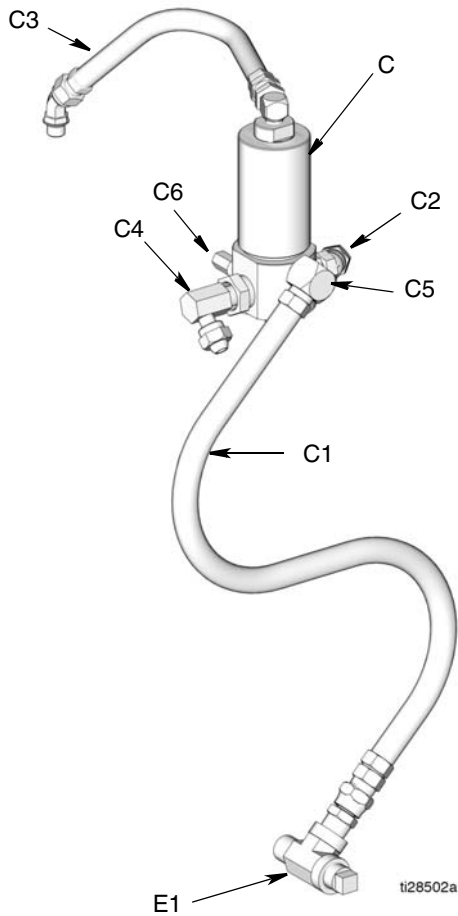
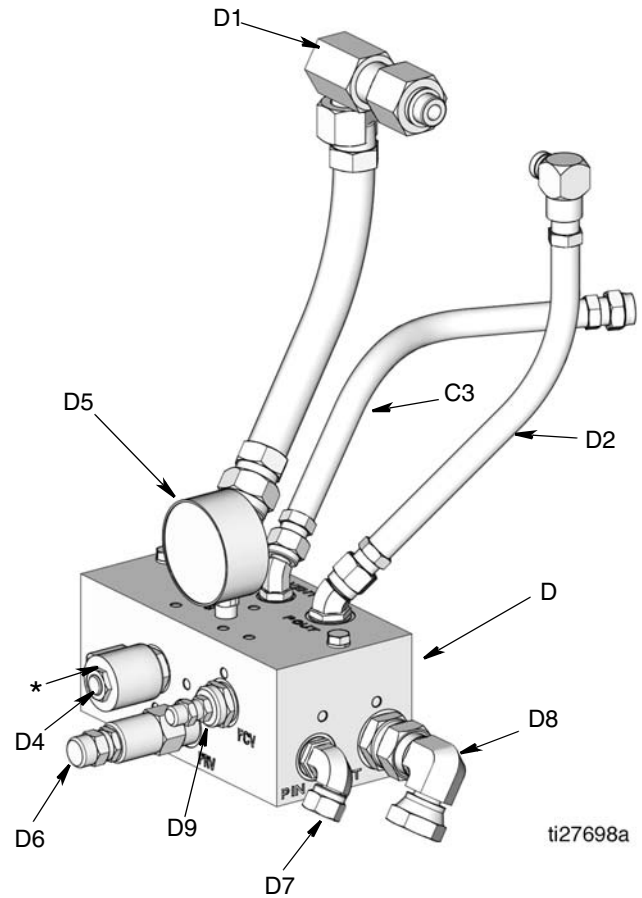

FIG. 2
FIG. 3
- Open Pressure Reducing Valve (D6) to reduce trapped hydraulic pressure (FIG. 3, page 6).
**NOTE:** The gauge (D5) on control module (D) should read zero pressure after performing this step.
- C Vent Valve (FIG. 2, page 6)
- D Control Module (FIG. 3, page 6)
**Auto-Fill Shut Off (1)**
- 13 Pipe tee fitting (replaces elbow C5 (FIG. 2, page 6))